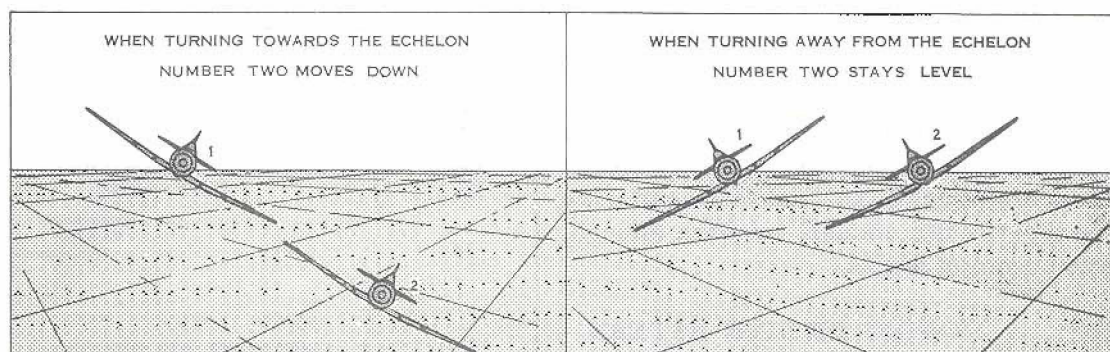

Figure 3: Turns in Echelon
(2) In Figure 3 the relative positions of the two aircraft in turns is illustrated. Notice that in turns towards the echelon Number Two drops down. To do so the throttle must be closed slightly, since the radius of turn is less than that of the leader's. On the roll-out, to maintain position, you must open the throttle in proportion to the rate of roll-out. After some practise you should be able to judge the amount of throttle opening accurately. One tip is to open the throttle wide enough to start the aircraft moving forward, and then to close it to a setting slightly below that needed for normal level flight after the rate of acceleration is satisfactory. Remember, normally no signals are given for turns, so you must be prepared to follow your leader whenever his aircraft shows signs of deviating from the level-flight attitude. When turning away from the echelon, the wingman stays level with the leader. By doing so, the desired effect is achieved with complete safety, and the roll-out can be made with Number Two in the correct position. If you are the wingman, you will have to open the throttle slightly to keep up, since your radius of turn is greater than the leader's. The amount of throttle opening is slight, but, if you intend to keep position, you must counteract the inherent lag by opening the throttle as soon as the turn is started.